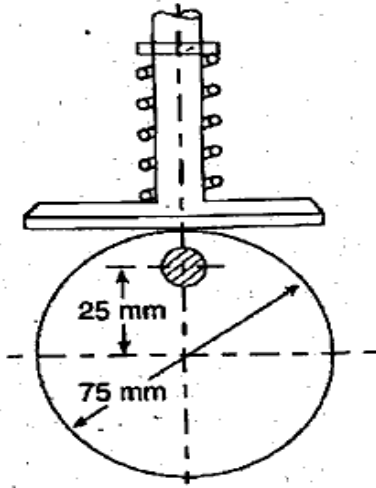

Figure 1 (चित्र 1)
8. A cam consists of a circular disc of diameter 75 mm with its centre displaced 25 mm from the camshaft axis. The follower has a flat surface (horizontal) in contact with the cam and the line of action of the follower is vertical and passes through the shaft axis as shown in Figure 1. The mass of the follower is 2.3 kg and is pressed downwards by a spring which has a stiffness of 3.5 N/mm. In the lowest position the spring force is 45 N.